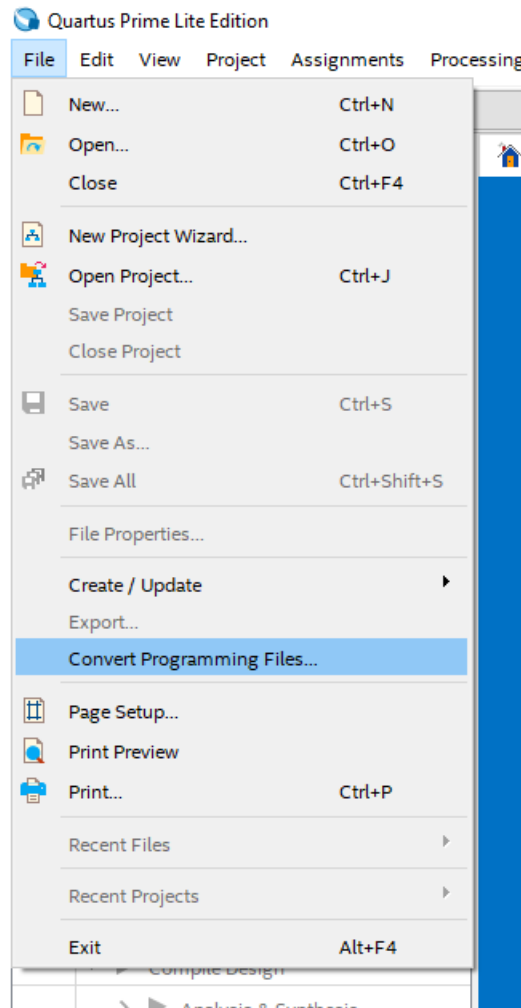

Figure 1: Convert SOF to JIC - Step 1
1. Open ‘Quartus Prime 16.1 Lite Edition’ from the desktop icon. Select File->Convert Programming Files, as shown in Figure 1. The Convert programming file window will now open.